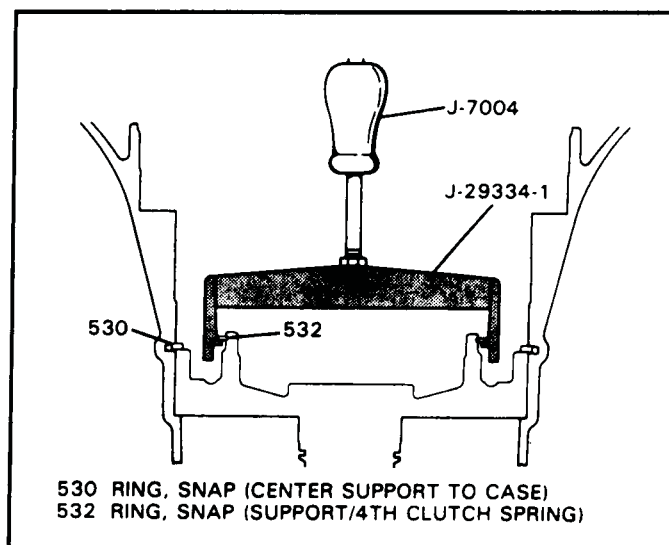

Figure 52
2. Remove the snap ring (530) in case retaining the center support (See Figure 52).
3. Install lifting tool J-29334-1 using snap ring as shown in Figure 52.
4. Remove the center support by lifting straight up (See Figure 52).